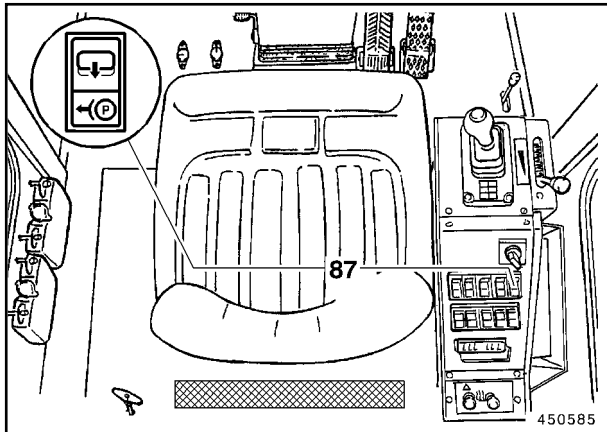

Fig. 5
- set the gearshift lever (82) to neutral
- apply the parking brake with rocker switch (87, Fig. 5)